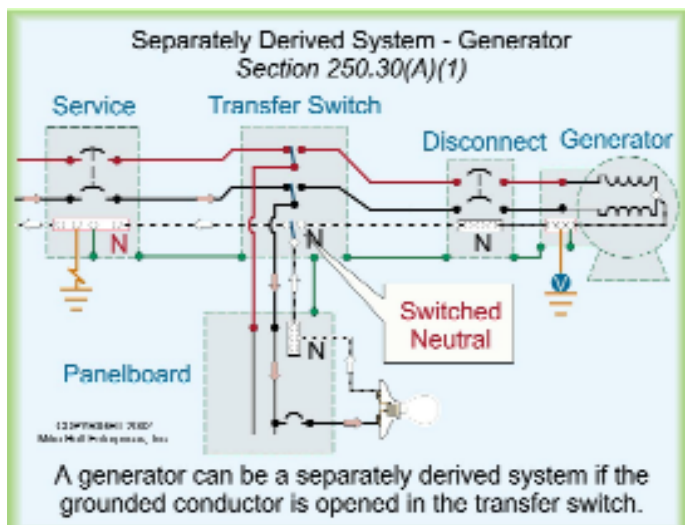

Figure 250-71
A generator, a converter winding or a solar photovoltaic system can only be a separately derived system if the grounded (neutral) conductor is opened in the transfer switch [250.20(D) FPN 1]. Figure 250-71